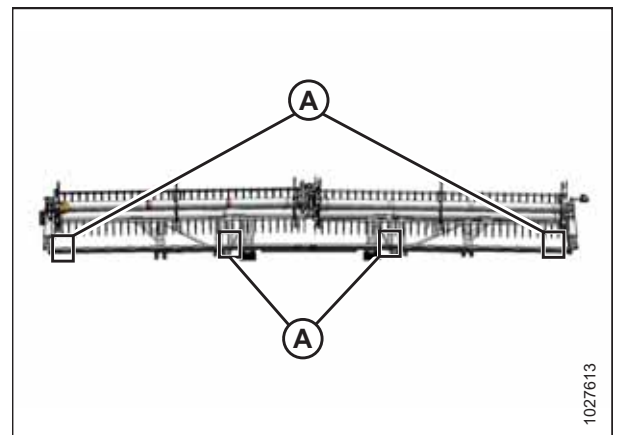

Figure 6.59: FlexDraper® Measurement Locations – Double Reel
- Figure 6.59, page 123 – double reel